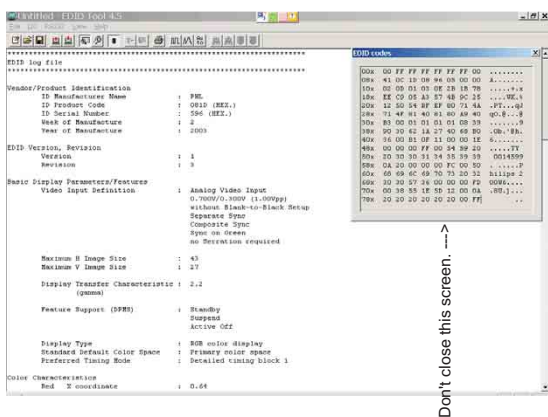

Fig. 20
- Click icon (Read EDID function) to read DDC EDID data from monitor. The EDID codes will display on screen as shown in Fig. 20.